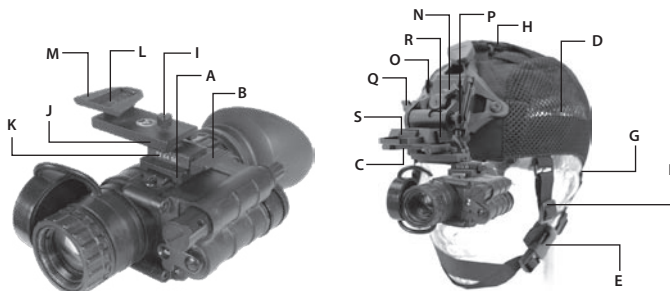

FIGURE 3-5. MOUNTING NYX-14 TO A TACTICAL GOGGLE KIT
To mount the NYX-14 to a Tactical Goggle Kit use an Swing Arm adapter. Insert the NYX-14 rail into the guide (Figure 3-5, A) of adapter. Push down the lever (B) and slide the unit until its alignment boss is parallel with the alignment groove on the adapter. Push until you hear a clicking noise indicating that the unit is locked into transfer adapter.
Adjust the NightCap™ (D) as follows (refer to Figure 3-5):
3. Place and center chin cup on chin and secure buckle (E).
4. Pull front adjustment strap hardware (F) down until snug.
5. Pull rear adjustment strap hardware (G) down until snug.
7. Front-to-back adjustment strap (H) can be tensioned to balance the NYX-14.
The transfer adapter can be adjusted for either the right or left eye. The adapter adjusted for a left eye is shown on Figure 3-5. To readjust the adapter for the right eye perform the following steps: